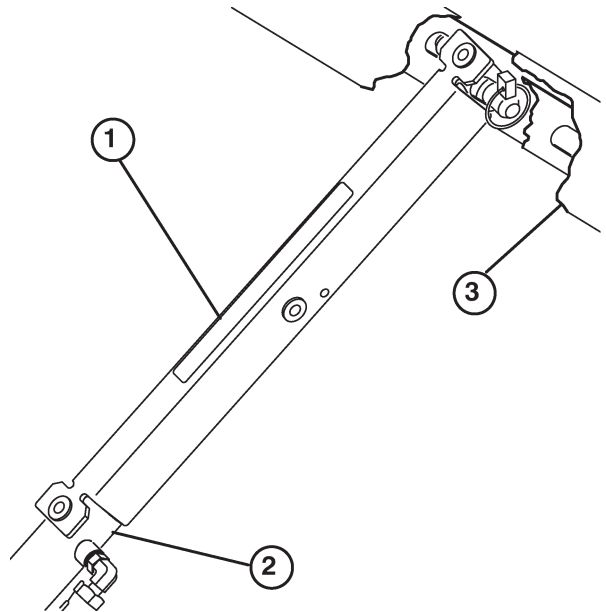

Figure 34
3. Push bed support onto cylinder rod, making sure support end tabs rest on end of cylinder barrel and on cylinder rod end (Fig. 34).